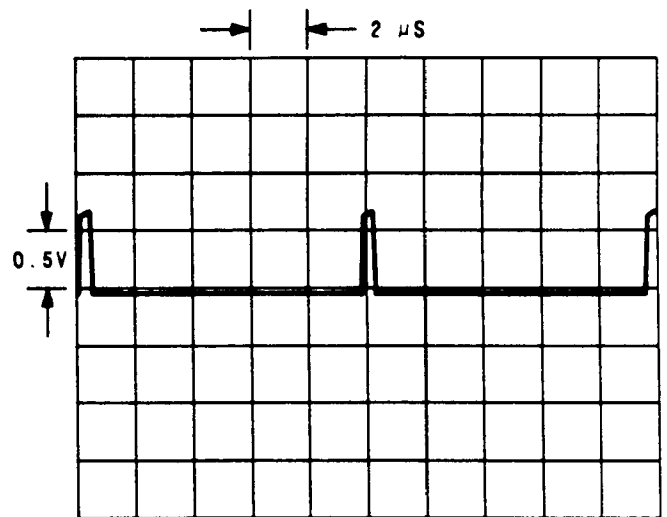

Figure 9. Oscilloscope Display of TP11, W3 in position W3B (service position), Signal Generator's frequency 960 MHz.
4. Verify that the waveform in Figure 9 is correct.